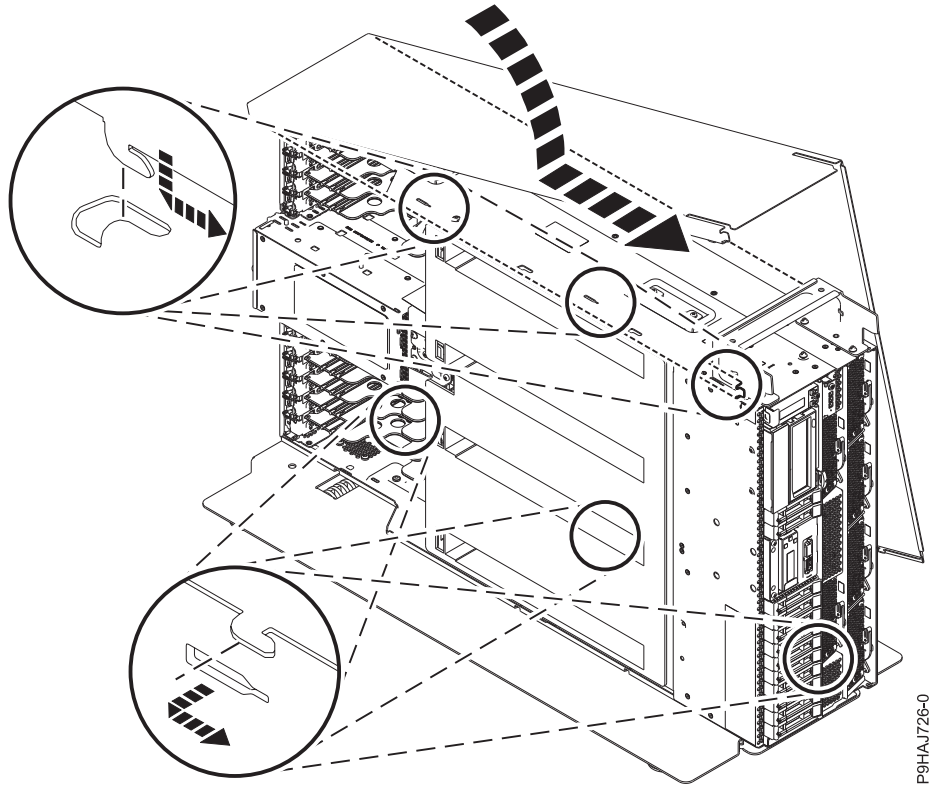

Figure 16. Installing the side cover
4. Slide the side cover into place until secured onto the system as shown in Figure 16 on page 27.